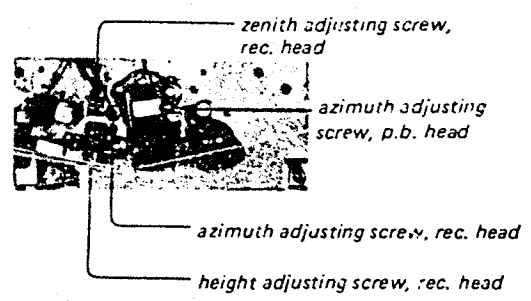

Fig. 4-3-3 Adjusting screws
k head azimuth g screw e Fig. 4-3-3.	Adjust the screw to obtain maximum reading on VTVM.
head height, zenith and adjusting screw e Fig. 4-3-3.	1. Turn the three screws (height, zenith and azimuth adjusting) so that the record head will be visually horizontal. 2. Set the MONITOR switch to TAPE. 3. Turn the height adjusting screw to obtain maximum reading on VTVM. Memorize the number of turns. 4. Turn the zenith and azimuth adjusting screws the same number of turns of height adjusting screw. 5. Follow the steps 3 and 4 to obtain maximum reading.
head azimuth adjusting e Fig. 4-3-3.	1. Set the MONITOR switch to TAPE position. 2. Turn the azimuth adjusting screw to obtain maximum reading on VTVM. Within one turn of the screw, the maximum reading should be obtained. If not, repeat the adjustment as in the item 5.